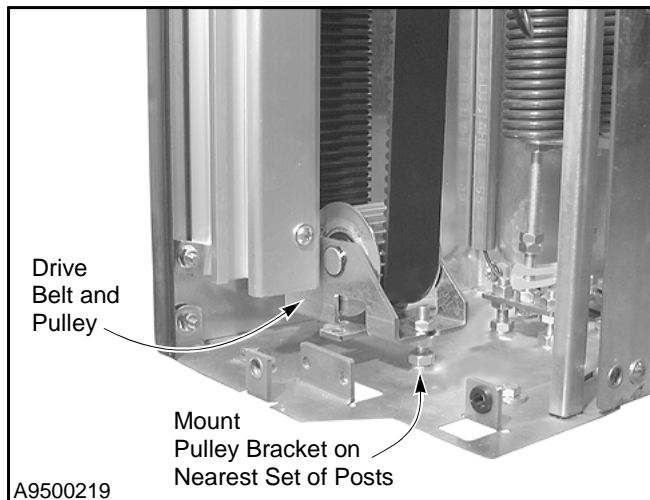

Figure 31
3. The nearest pair of mounting posts on the base plate are used for mounting the guide pulley. Remove the two upper nuts from this set of posts to make it possible to place the pulley. (See Figure 31.)
5. The front post is used to set the tension on the drive belt. Thread the upper nut down against the pulley bracket until the belt is properly tensioned. Tighten the lower nut against the bottom of the pulley to lock in the tension. (See Figure 31.)